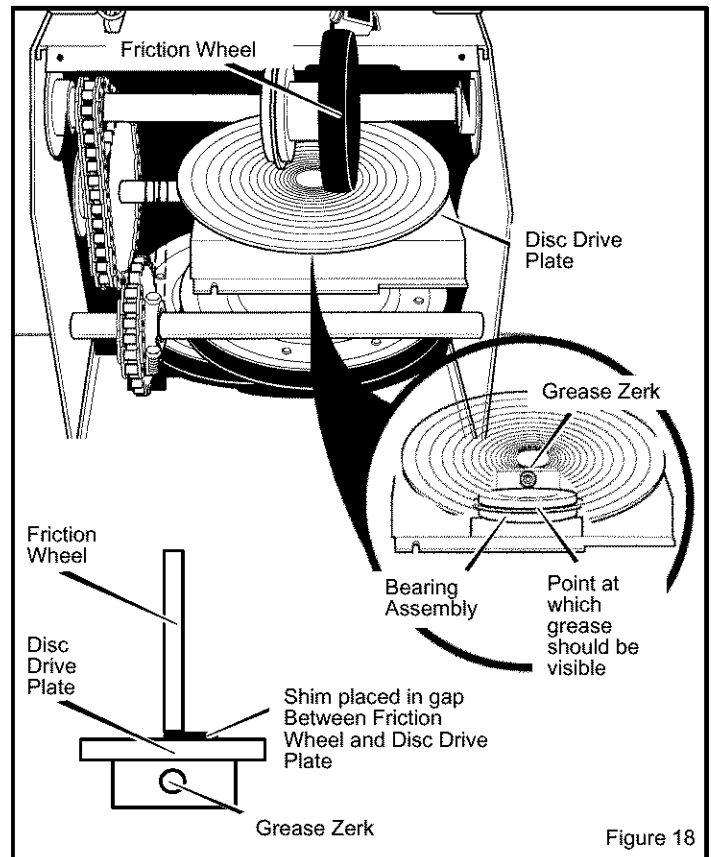

Figure 18
4. Turn disc drive plate clockwise by hand until grease zerk is clearly visible at front center (see Figure 18).
5. Place a coin or **(a shim of equal thickness)** between the rubber friction wheel and disc drive plate to prevent rubber friction wheel contacting the drive disc (see Figure 18).
6. To grease zerk, use a hand grease gun, lubricate with a Hi Temp EP Moly grease. See inset of Figure 18. **DO NOT** over fill or allow grease to come in contact with the disc drive plate or friction wheel or damage will result. Fill zerk only until grease becomes visible below bearing assembly located under grease zerk.